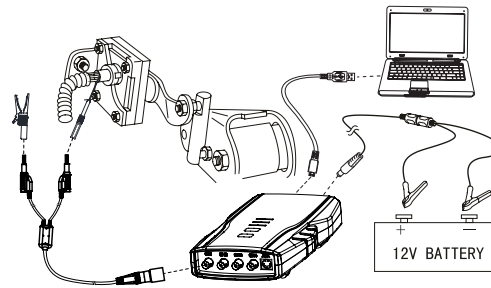

Fig. 24: Equipment connection
1. Connect equipment according to Fig.24, switch on power supply.
As shown Fig.24 for waveform characteristics of ride height (position) sensor, and different vehicle models may have different indexes, subject to manufacturer's manual.